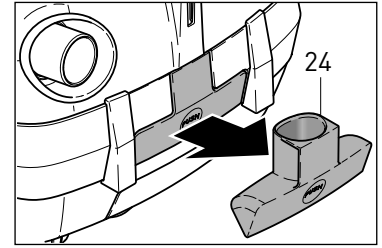
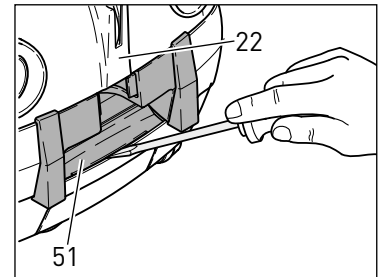

Figure 27
Figure 28
To remove the AIRBELT system (25 & 52), remove the upholstery tool from the rear of the machine (figure 27), and lever out the tool holder (51) using a slot-head screwdriver (figure 28). The AIRBELT system (25 & 52) can then be pried out of the recess with a screwdriver (figure 29) and removed by carefully sliding the assembly toward the front of the machine (figure 30). Remove the damaged textile (25) from the foam bumper (52).